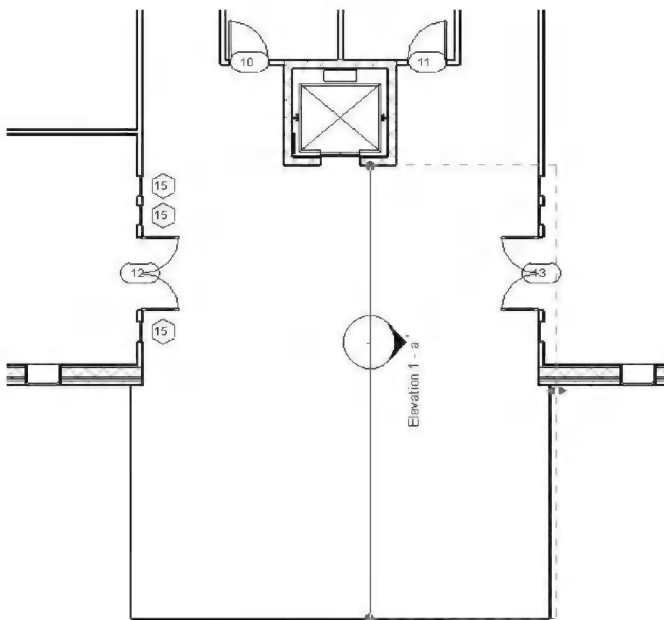

FIGURE 8-3.3 Elevation tag selected
8. Pick the “pointing” portion of the elevation tag, so you see the view options (Figure 8-3.3).